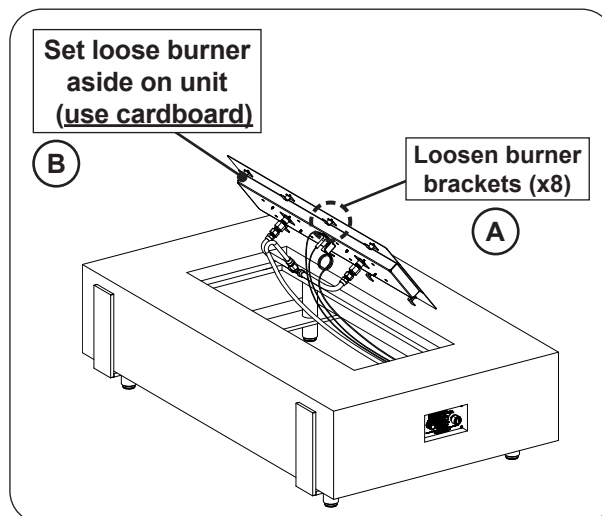

Fig. 32-2 Gain access to interior of unit
3. Use a $\frac{5}{16}$ " nut driver to loosen the 8 screws found on the burner assembly (see Fig. 32-2, A).
4. Carefully lift out the burner just enough to set it off to the side (see Fig. 32-2, B).